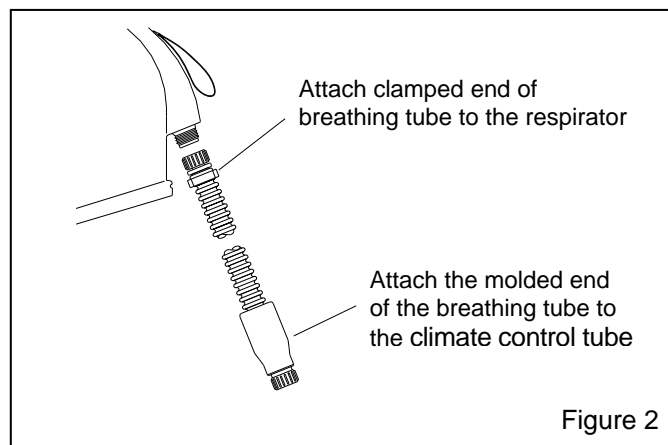

Figure 2
3.1.1 The breathing tube has a clamped-on end and a molded-on end. Attach the molded-on swivel connector to the climate control tube's outlet as shown in Figure 2.
3.1.2 Attach the clamped-on end to the threaded air inlet fitting at the back of the helmet as shown in Figure 2. Do not over-tighten; hand-tight is sufficient.